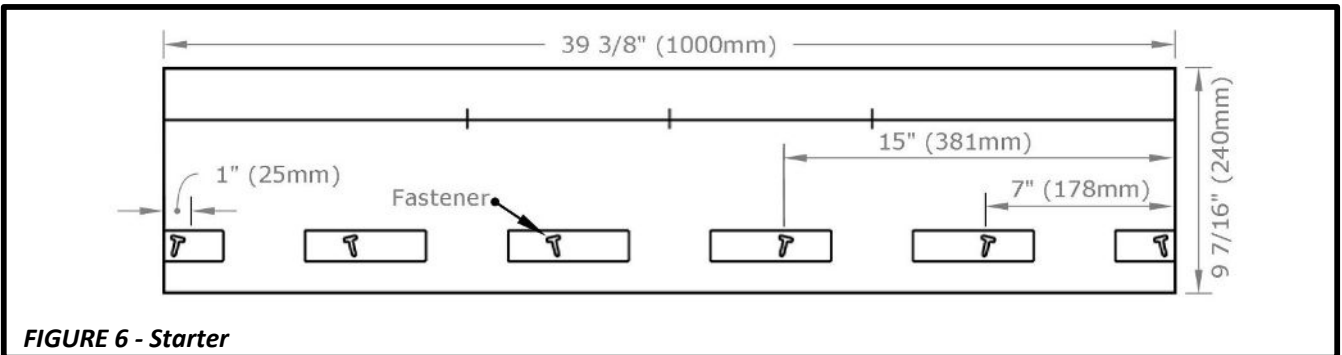

FIGURE 6 - Starter
- FWAVE requires the use of REVIA[®] Starter Shingles to ensure proper waterproofing and aesthetics. See **Figure 6**.